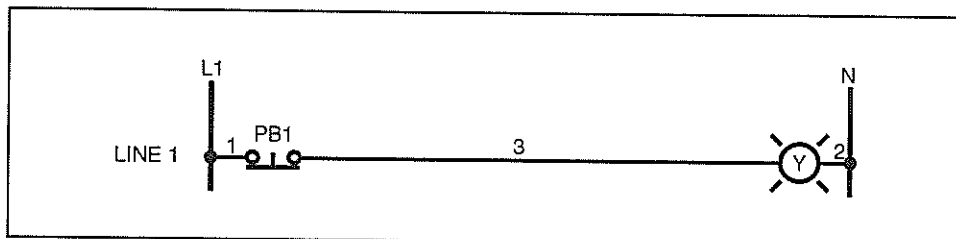

Figure 35. The NOT Logic Circuit for Skill 8
- 2. Connect the circuit shown in the ladder diagram in figure 35.